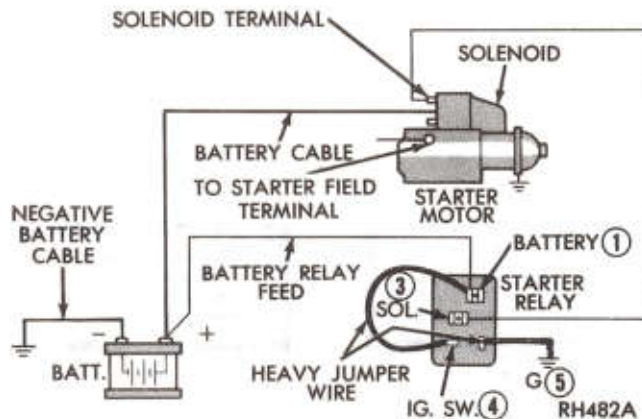

Fig. 5—Relay Test with Two Jumper Wires (Typical)
(7) If engine does not crank connect a second jumper wire to starter relay between ground terminal and to a good ground (5) (Fig. 5). Repeat test and if engine cranks, starter relay is good.